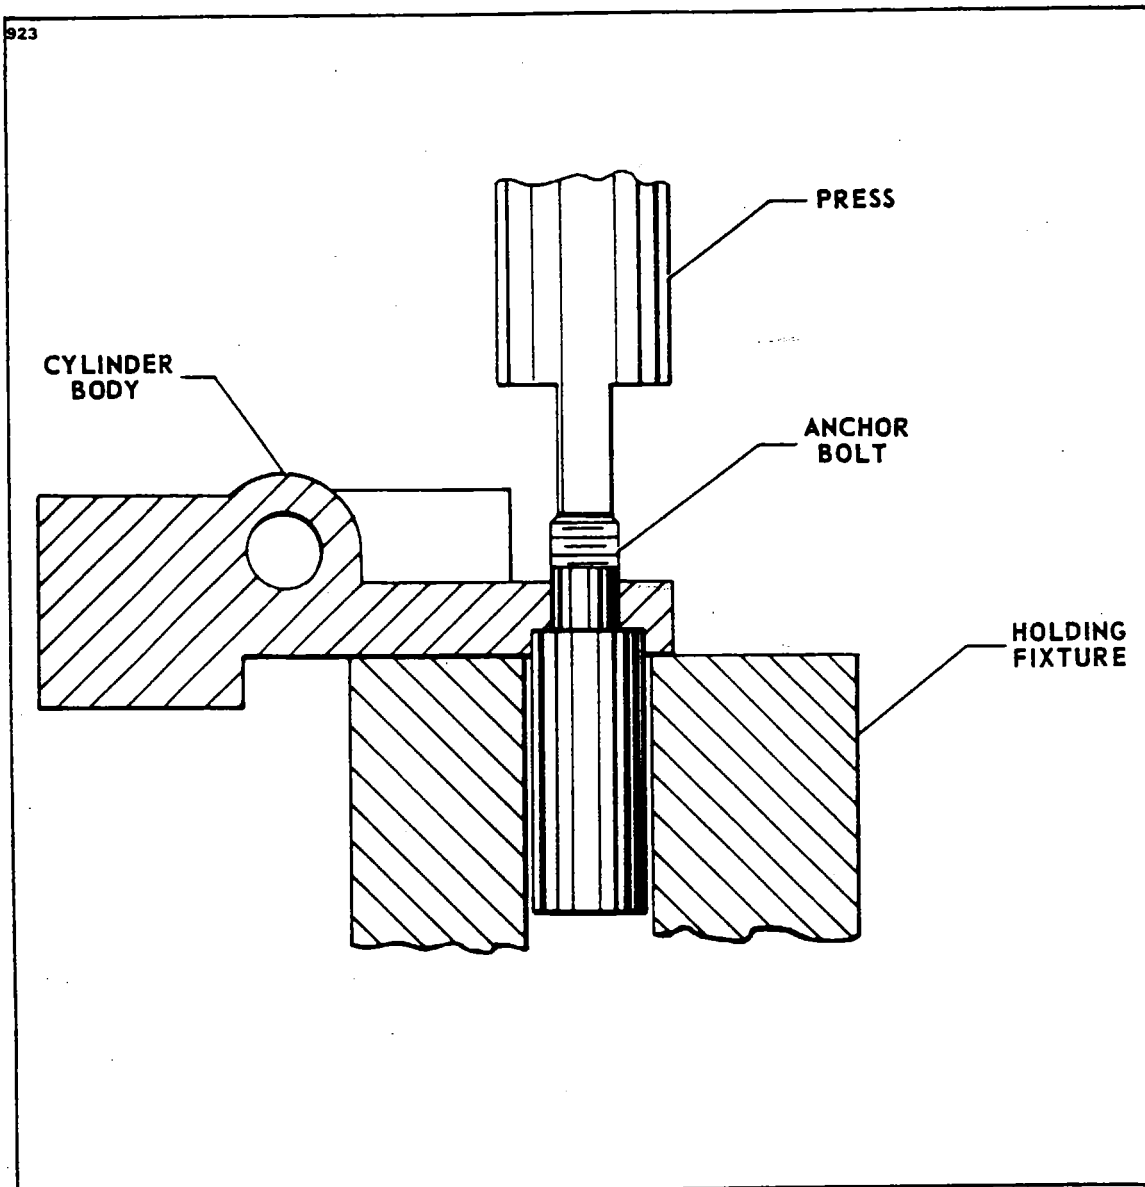

Figure 7-15. Removal of Anchor Bolt.
1. Position cylinder assembly on a holding fixture. (Refer to Figure 7-15.)